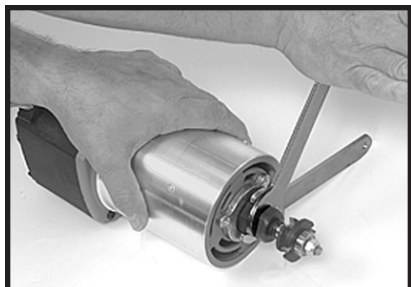

Fig. 2
- While holding base, turn motor unit COUNTERCLOCKWISE until lower pin (B) in motor housing is disengaged from groove in base.
- Place one wrench on flats on chuck with the opposite end of the wrench resting on the bench to your left, Fig. 2.
- Place other wrench on collet and tighten COUNTERCLOCKWISE as shown in Fig. 2. TIGHTEN FIRMLY.